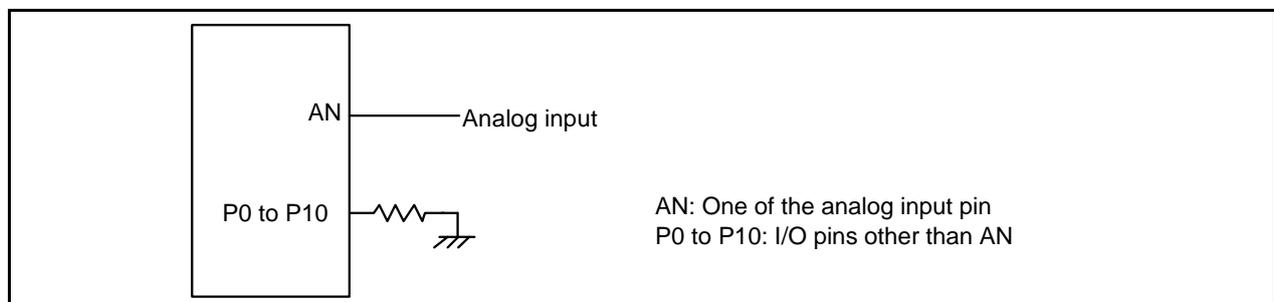

Figure 31.2 A/D Accuracy Measure Circuit
2. Flash memory rewrite disabled. Except for the analog input pin, set the pins to be measured as input ports and connect them to V_{SS} . See Figure 31.2 "A/D Accuracy Measure Circuit".
- Flash memory rewrite disabled. Except for the analog input pin, set the pins to be measured as input ports and connect them to V_{SS} . See Figure 31.2 "A/D Accuracy Measure Circuit".